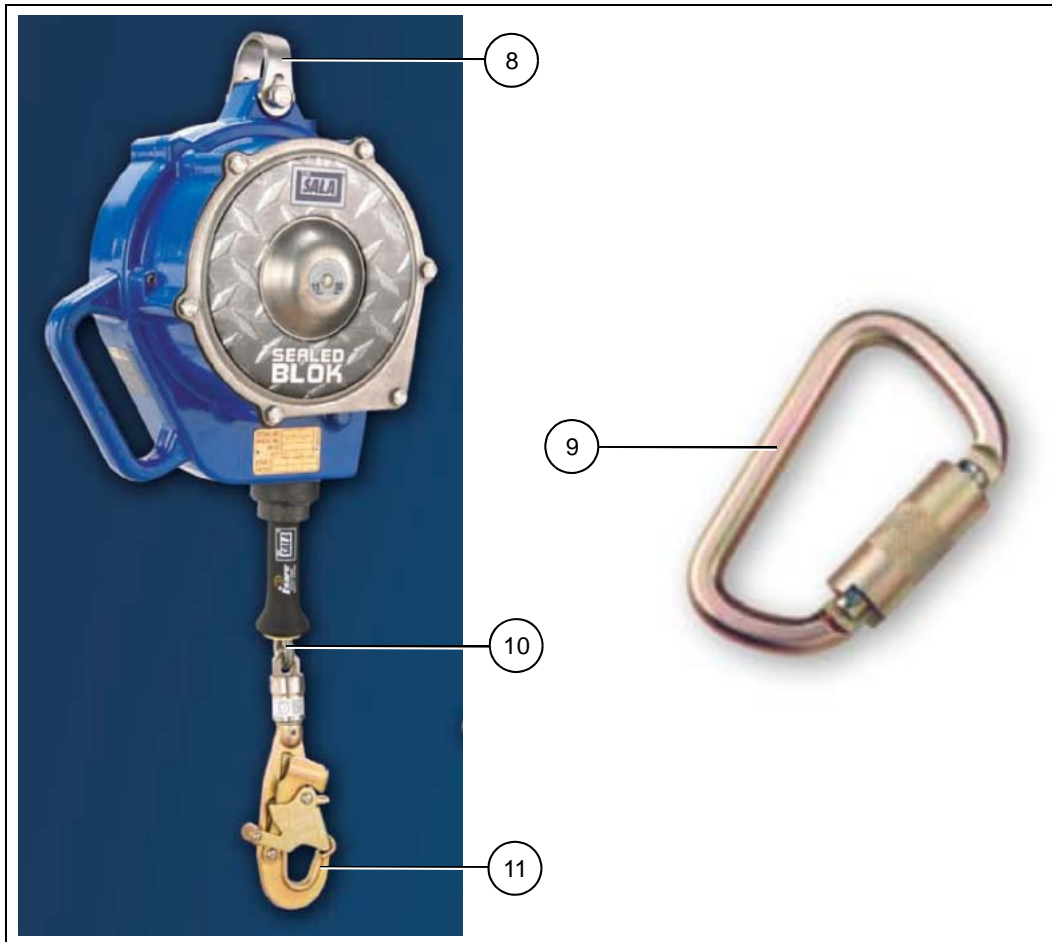

Figure 2F Self-Retractable Lanyard (SRL) Components
1. Once the BFT anchor point is properly installed at the peak ring above the roof ladder, connect the pivoting anchorage loop (8) on the SRL to the anchor point using the self-locking carabiner (9) provided with the SRL.
2. Tie the tag line (rope) provided in the kit to the steel cable loop (10) located just above the SRL swivel hook (11). *See Figure 2F on Page 13* for SRL component callouts.